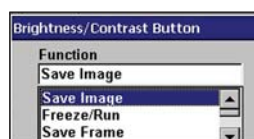

Figure 5-22 Sample Brightness/Contrast dialog box
The Brightness/Contrast dialog box displays (Figure 5-22).
1. Select **Utilities > Easy Scroll** (Figure 5-22).